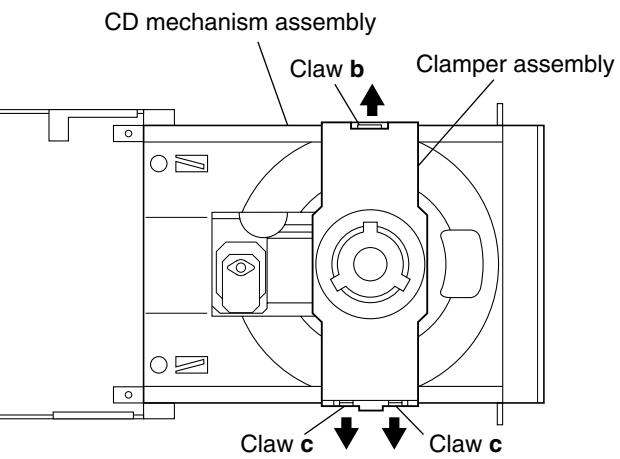

Fig.4
(See Figs. 4 to 7.)
- 1. From the top side of the CD mechanism assembly, open up the claws **b** and **c** at the left and right of the clamper assembly and lift the assembly to remove it. (See Fig.4.)
1. Remove the left and right side plates. (See Figs.4 to 7 of "Main body section" on page 1-7.)